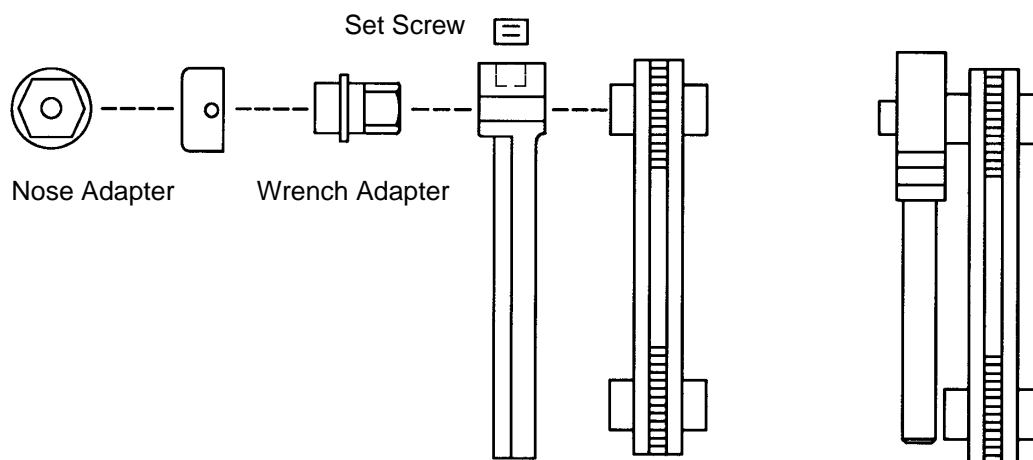

Figure 7 - Hand Installation Tool Assembly
- 5.5.2 If the surrounding structure does not permit the use of a pneumatic installation tool, install the Jo-Bolts using a hand tool assembly (refer to Table 7 for the Zephyr hand tool assembly which may be used to install each particular Jo-Bolt size and head style). Assemble hand tools as shown in Figure 7.